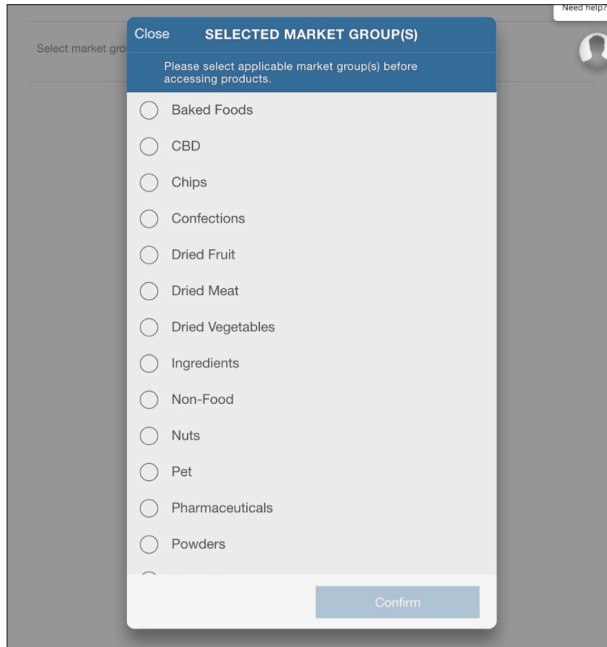

Figure 37 Choose market groups
5. Place cursor in Select market group(s) field to open a market group popup window (Figure 37).
6. Select the **Confirm** button when selections are completed (Figure 37).